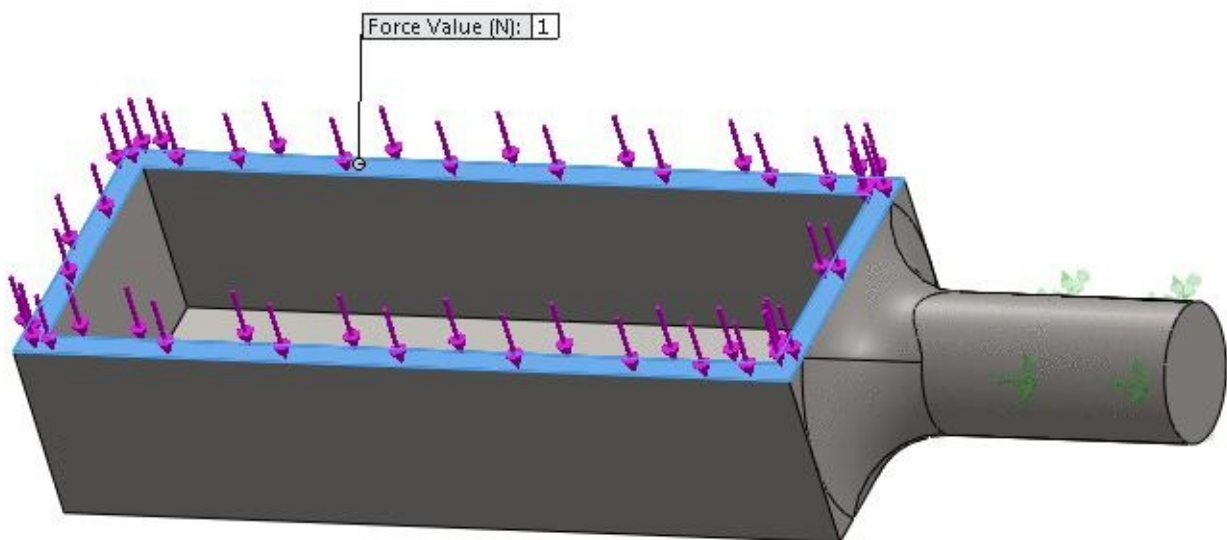

Figure-9. Face selected for applying load
- Select the face as shown in Figure-9 to apply the force load.